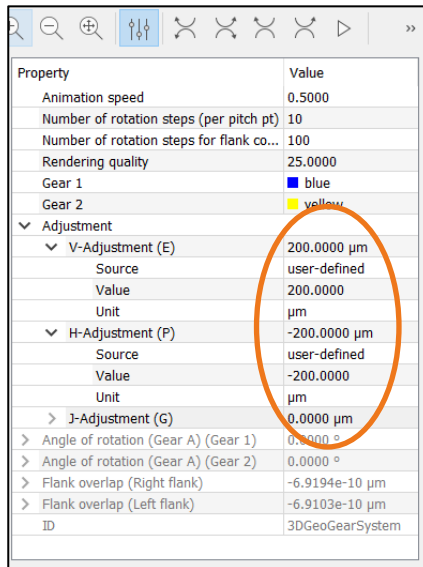

Figure 40. VH (EP) Check
6. In KISSsoft it is possible to use the **VH-Check** to position the contact pattern, and so to determine the sensitivity of the meshing. To do this, enter the position values under Properties (see Figure 40) and follow the instructions in points 5 to 7 to check the contact pattern position.